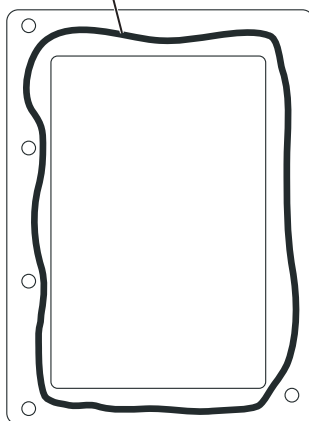

Figure 1
17. Apply silicone around the kick panel mating surface for a water tight seal (See Figure 1, below).
18. Install the kick panel cap onto the kick panel opening, and secure using (5) #14 x 3/4" washer head screws (See Photo 17, below).